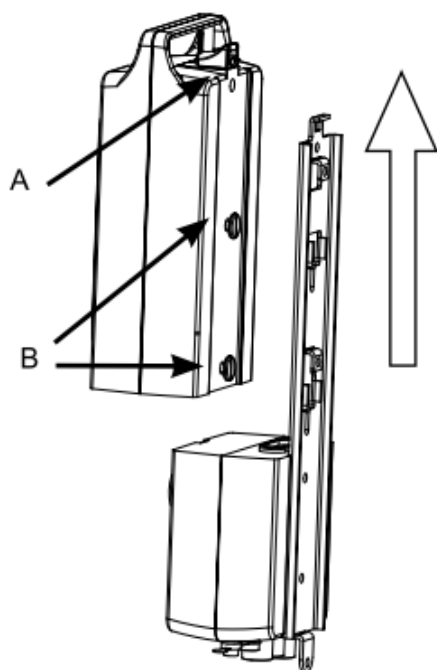

Fig. 1
- 2.1.3 Lightly lift a cover of battery box so that can be separated from a support and control box (Fig. 1).